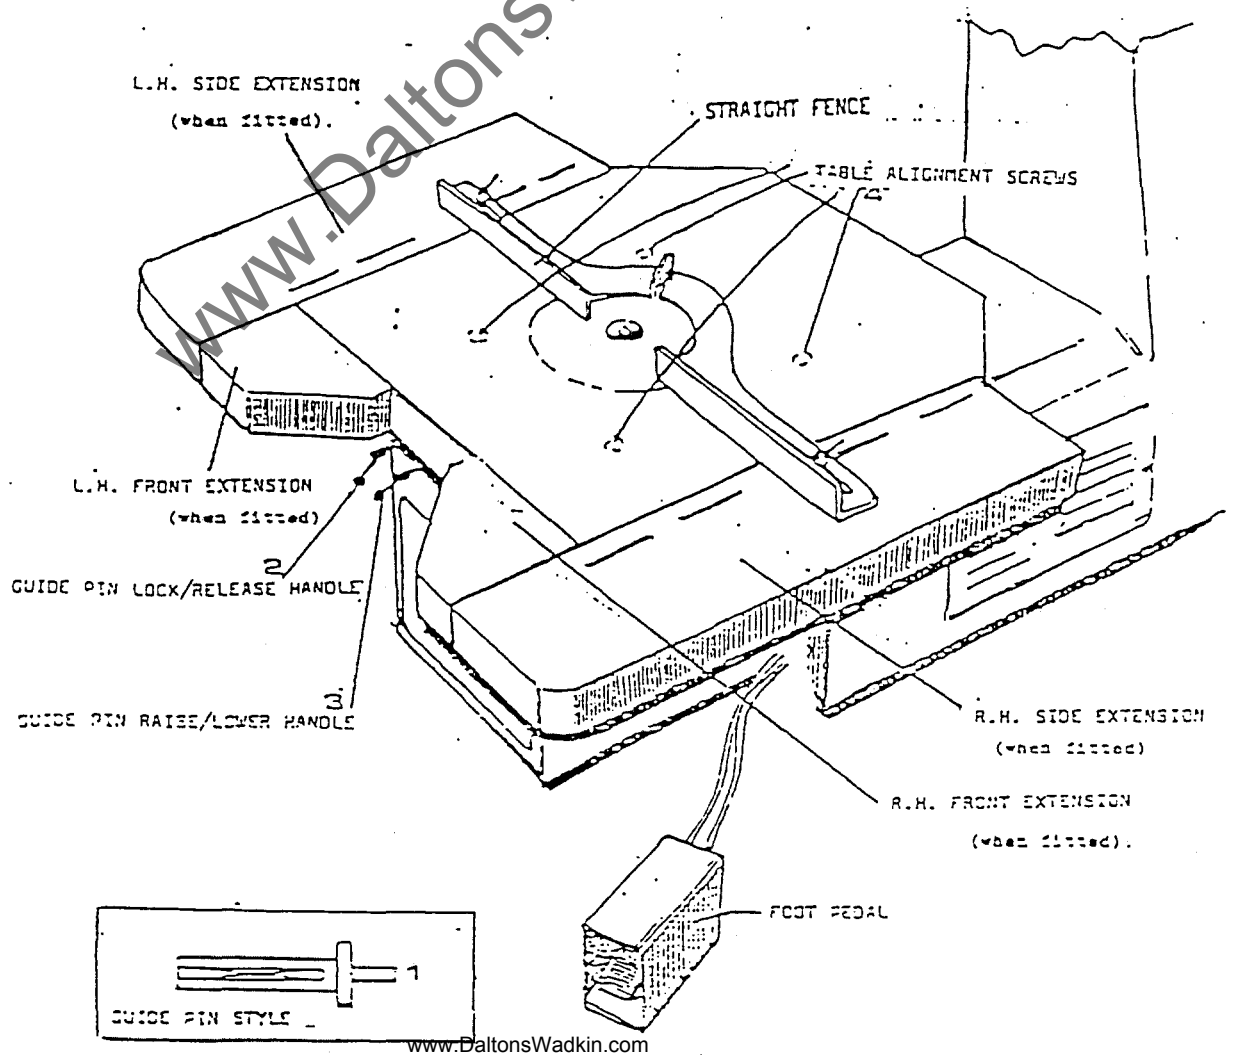

FIG. 10 LAYOUT OF PLAIN TABLE UX1
4.6 PLAIN TABLE MODEL UX 1 (See Fig. 10)